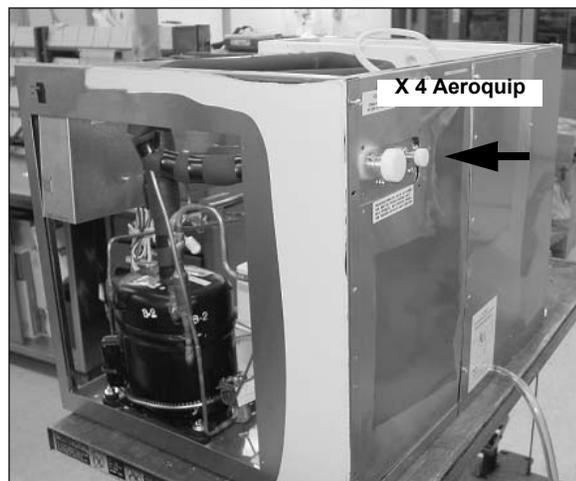

Figure 43.
46. Place the back panel in the unit. Attach the Aeroquip bracket with (4) hex head screws (Figure 43). **DO NOT** attach to the left side panel at this time.
47. Place the right side panel / brace / electrical box assembly (Figure 43).